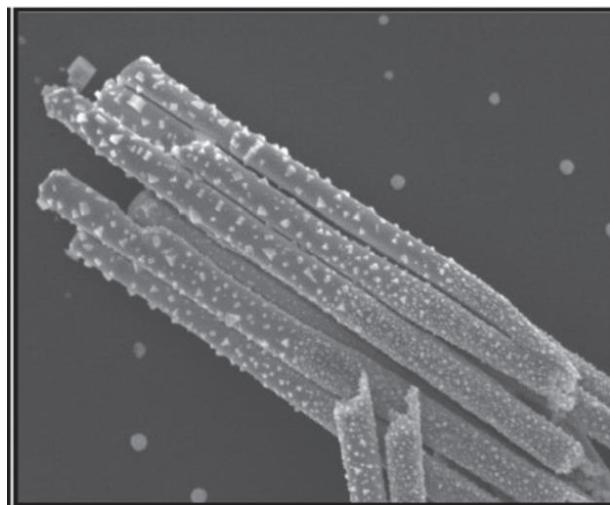

Figure 1: Nanoparticles embedded polymer nanorods prepared by electrodeposition method.
- (i). Explain the process of synthesizing nanoparticles embedded polymer nanorods shown in Figure 1 by giving one specific example.